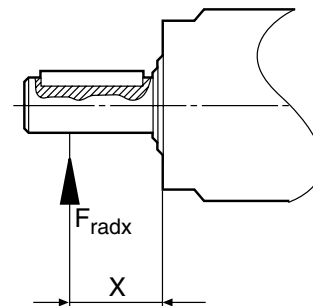

Fig. 4: Force applied at distance X
- The force is applied at a distance  $x$ , as in figure 4. This value can be calculated as follows: